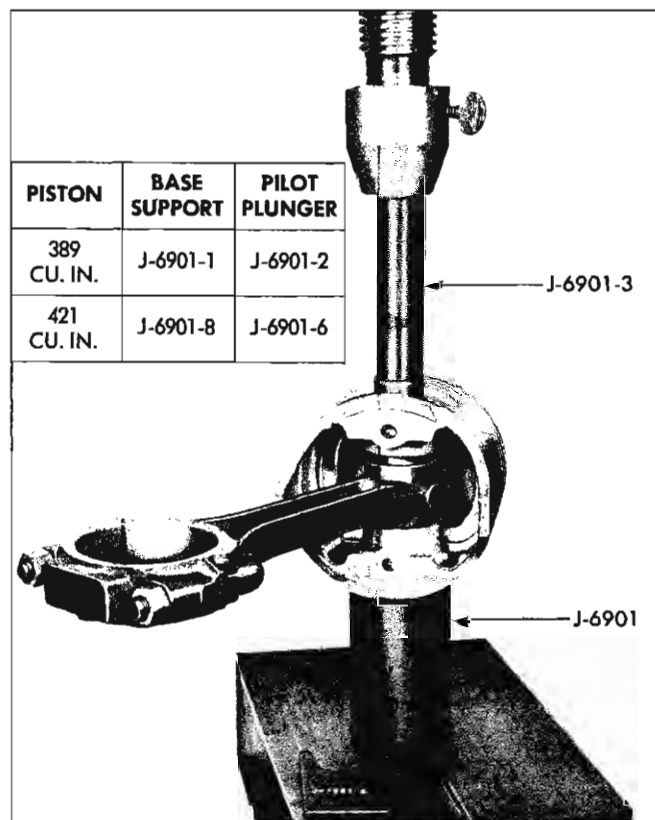

Fig. 6-69 Installation of Piston Pin
4. Place tool J-6901-3 in piston pin and press pin into piston and connecting rod (Fig. 6-69) until piston pin bottoms against plunger of tool J-6901. Piston must turn freely on pin. If piston binds on pin, disassemble, hone piston pin bosses slightly and re-assemble.